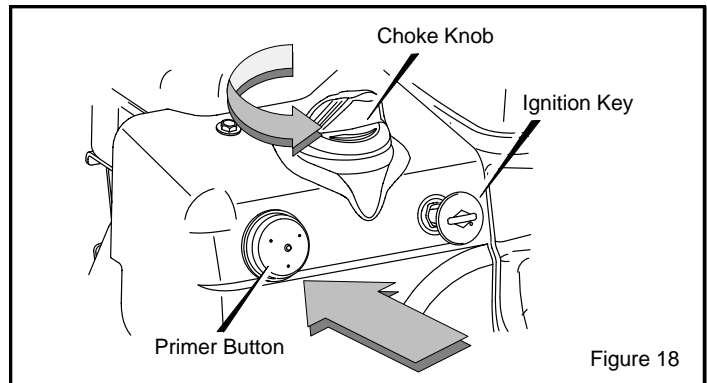

Figure 18
3. Insert key into ignition slot. Make sure it snaps into place (Figure 18). Do not turn key.